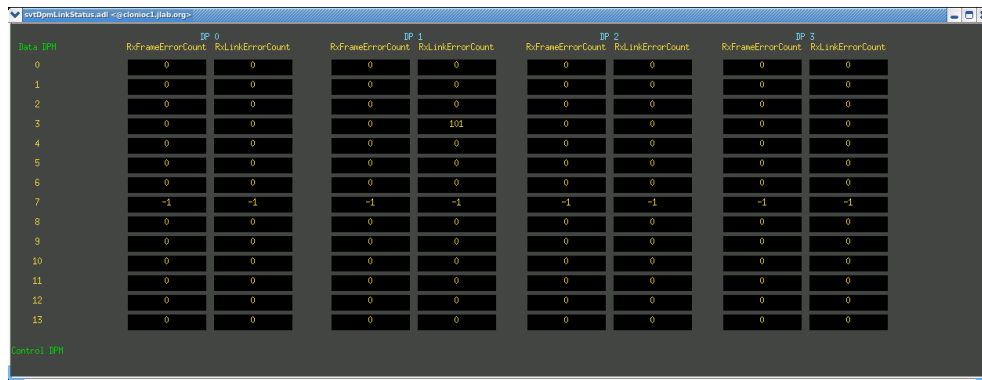

Figure 2.4: DPM link status GUI.
- **DPM Link Status** in Fig. 2.4.